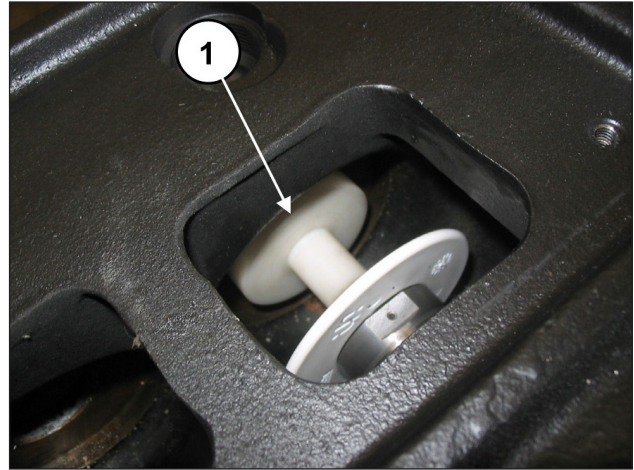

Fig. 113
Insert the buffering tool code 27516600 between the piston guide and the piston (pos. ①, Fig. 113).